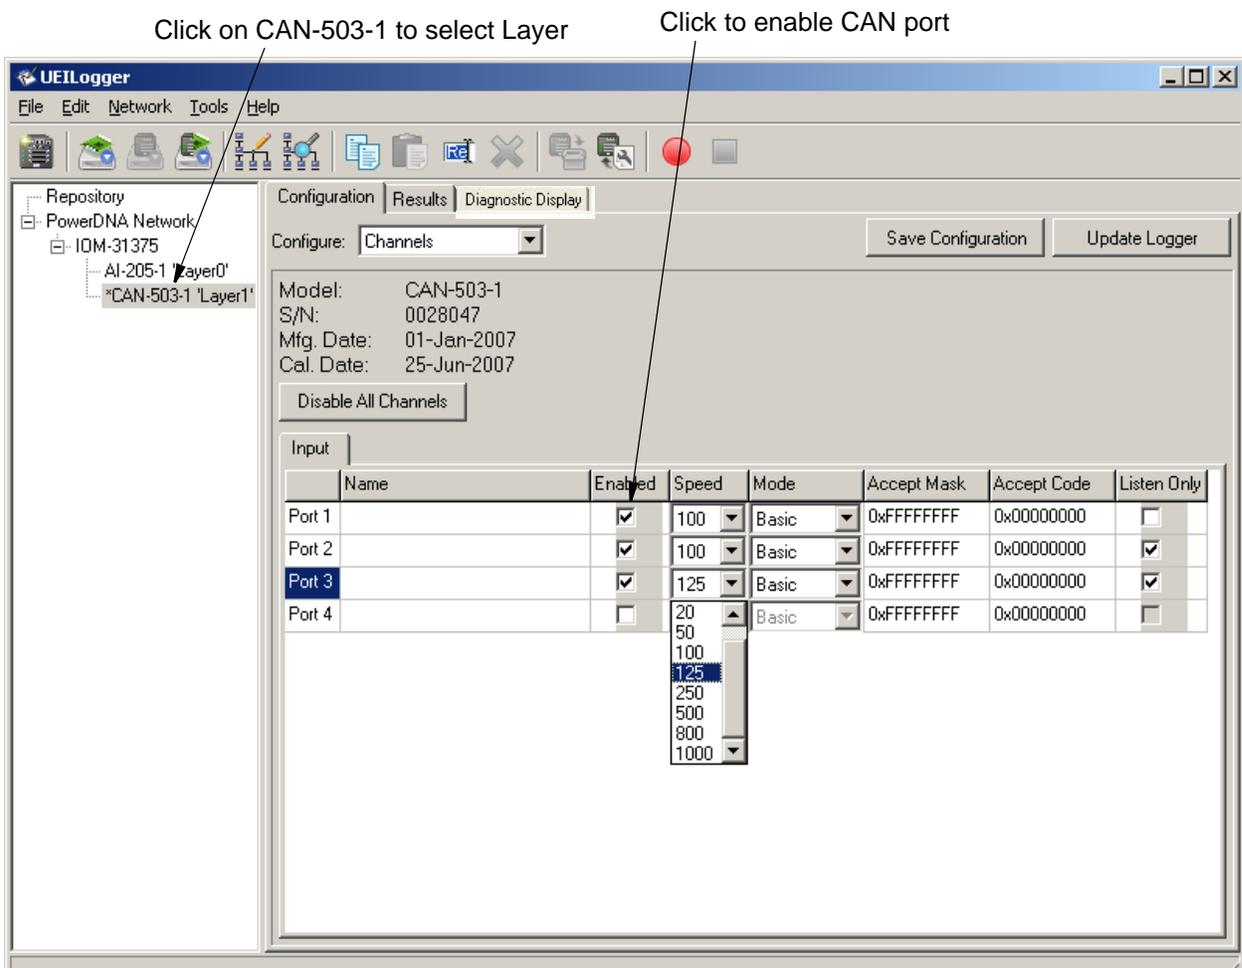

Figure 2-41 Configuring the CAN-503 Ports
- STEP 1:** In the left window of the Logger screen, click on the Layer marked CAN-503. Then, in the right hand window, click on the *Configuration* tab. In the *Configure* box, pull down the menu and select *Channels*. The screen shown in **Figure 2-41** then appears.